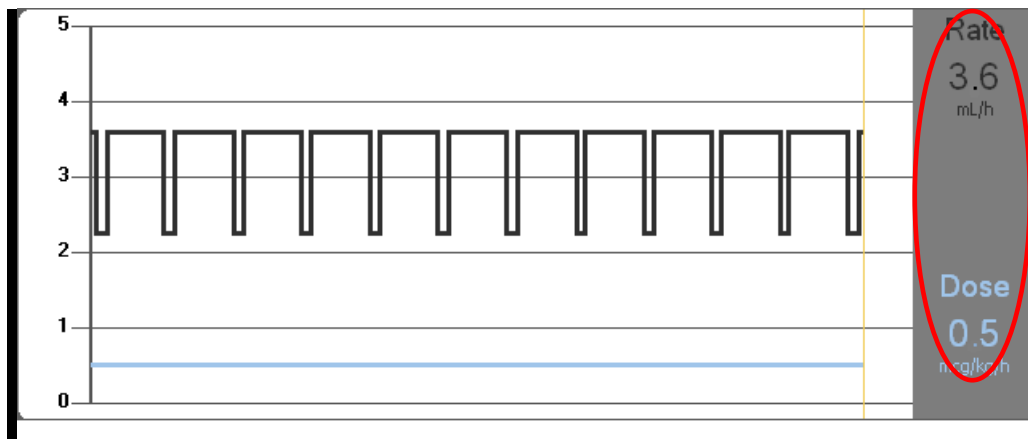

Fig 22
- The volume rate and the dose rate of the infused drug (Fig 22);
- If the pump is set to "Pharmacokinetic" mode, three lines are displayed on the chart, corresponding to: 1) the target value; 2) the plasmatic concentration; 3) the "effect site" concentration. The displays on the right show the three corresponding values (Fig 22);